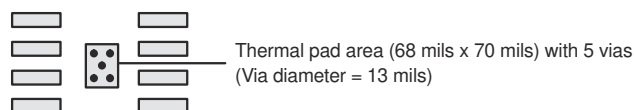

Figure 7-10. PowerPAD™ PCB Etch and Via Pattern
1. Prepare the PCB with a top-side etch pattern as shown in Figure 7-10. There must be etch for the leads as well as etch for the thermal pad.